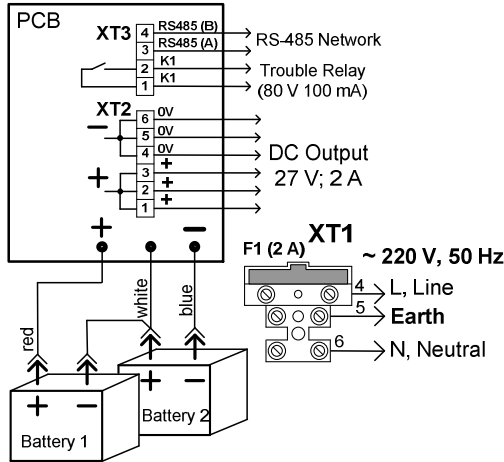

Figure 2. Connection Diagram
Connecting wires of external power 220 V to the line terminal block please connect Line, Neutral, and Earth contacts properly. Wire the RIP as shown in Figure 2.
2.3.1 Ensure the RIP is mounted and wired properly in accordance with Figure 2.